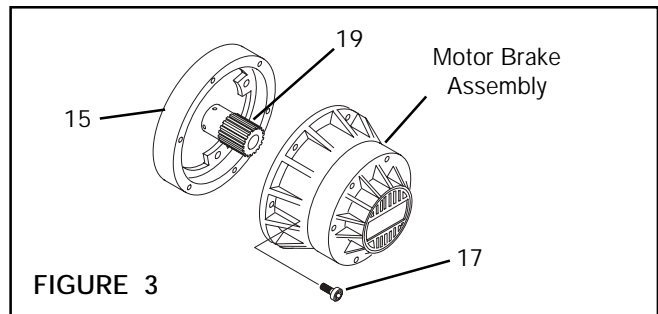

FIGURE 3
6. Slide the Motor Brake Assembly onto the Hub (Item 19) (See Figure 3).
8. Align the mounting holes of the Motor Brake with the holes of the Adapter Ring (Item 15) and install the Socket Head Cap Screws (Item 17) (See Figure 3).